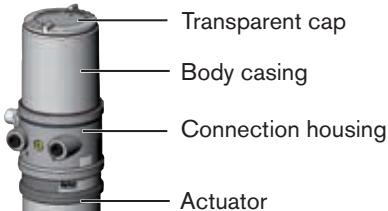

Fig. 19: Open control head
- When unscrewing and screwing in the transparent cap, do not hold the actuator of the process valve but the connection housing (see "Fig. 19: Open control head").